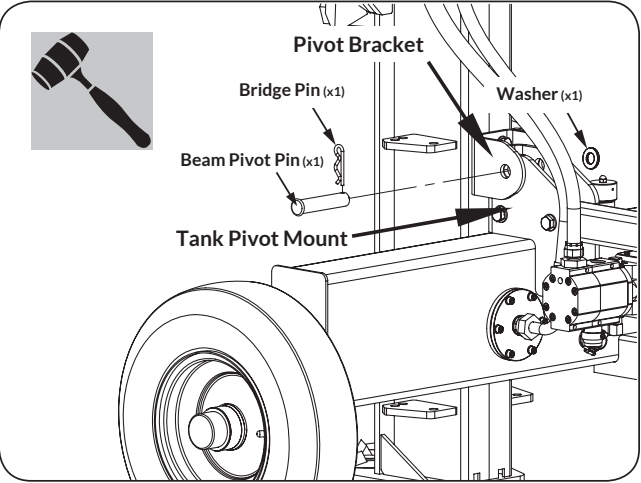

Figure 7b
2. Align the pivot bracket on the beam assembly to the pivot mount on the tank weldment and insert the beam pivot pin and washer. (See **Figure 7b**)